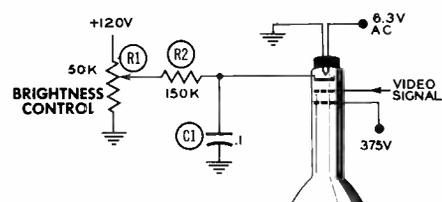

Fig. 2. A Brightness Control in the Cathode Leg of a Picture Tube.
A defective cathode-ray tube can cause loss of control if either of two conditions is present: (1) a short or partial short from cathode to grid or heater, or (2) a gassy tube. In the first instance, loss of control will occur if the brightness control is situated in the cathode leg of the picture tube. See Fig. 2. One side of the heater is usually grounded. Hence, when a cathode-to-heater short circuit develops, the cathode is placed at ground potential and no variation of the brightness control will alter this. Whether or not a picture is observable under these conditions depends upon the average potential of the grid. Generally, if a picture is obtained, it will be quite bright.